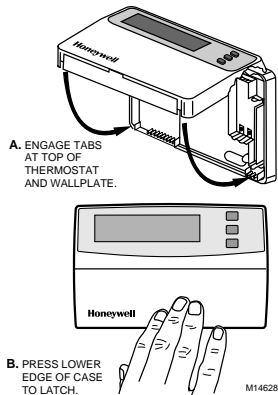

Fig. 8. Mounting thermostat on wallplate.
1. Engage tabs at the top of the thermostat and wallplate. See Fig. 8.